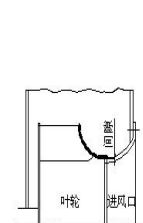

图15
- (1) 原则上风机和管道间以柔性接管相连，且使其中心相一致。否则可能导致机壳变形，使进风口与叶轮相擦 The principle of wind machine and pipe with flexible nozzle connected, and the center is consistent. Otherwise it may lead to casing deformation, so that the air inlet and impeller rub.
- (2) 管道与风机链接前应仔细检查其内部，若有异物应清除 Link the pipeline and fan should be carefully examined before the internal, if the foreign body should be removed.
- (3) 若风机进口不接管道，应于吸入口侧装置具有足够强度的防护网，以防异物吸入风机 If the fan inlet is not connected with pipes, should be on the suction side of the device has sufficient strength of the protective net, to prevent foreign body inhalation fan.
- (4) 叶轮和进风口间的间隙安装终结后，应检查并确认叶轮和进风口间上下、左右间隙基本均匀一致（图 15） The gap between the impeller and the air inlet end of the installation, should check and confirm the impeller and the air inlet between the upper and lower, left and right gap uniform (Figure 15).